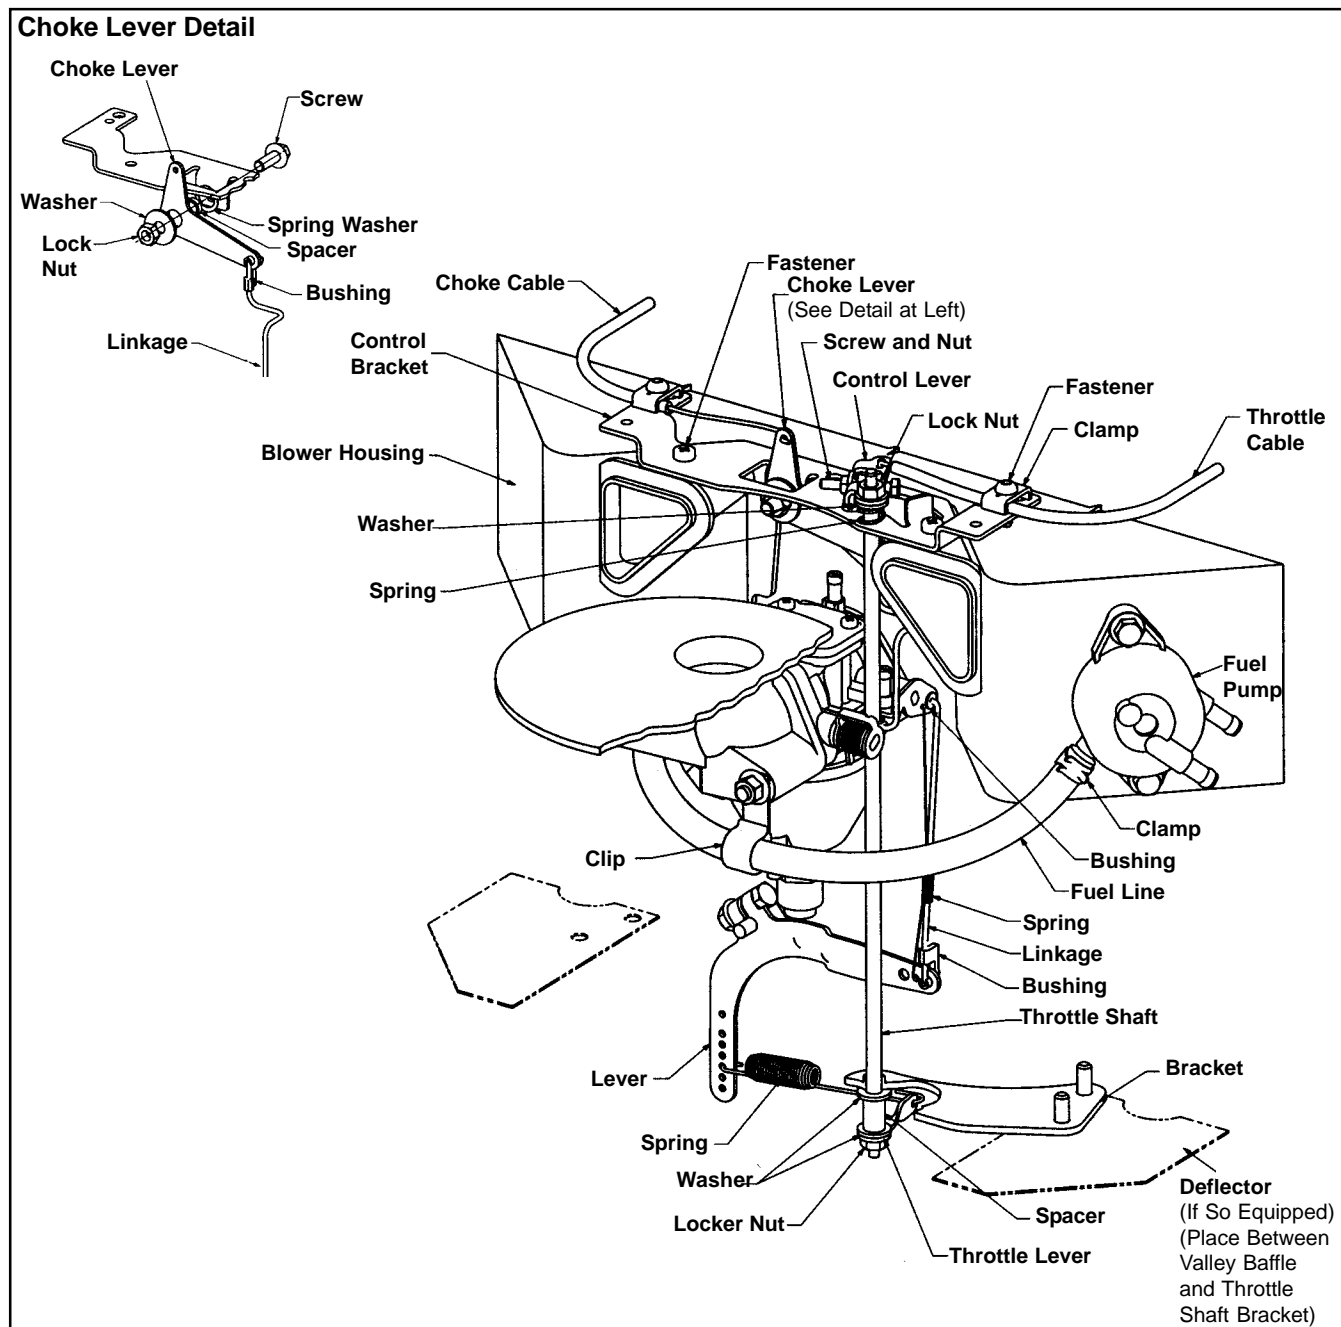

Figure 5-38. Governor Used with Commercial Mower Air Cleaner.
The Commercial Mower governor arrangement shown in Figure 5-38 is used primarily on wide area walk behind mower applications. The initial adjustment and sensitivity adjustment is the same as for the standard governor. Should the governor spring be disconnected from the throttle lever and governor lever, reconnect it as follows:
2. Rotate the spring 180° until hooked as shown in Figure 5-38.